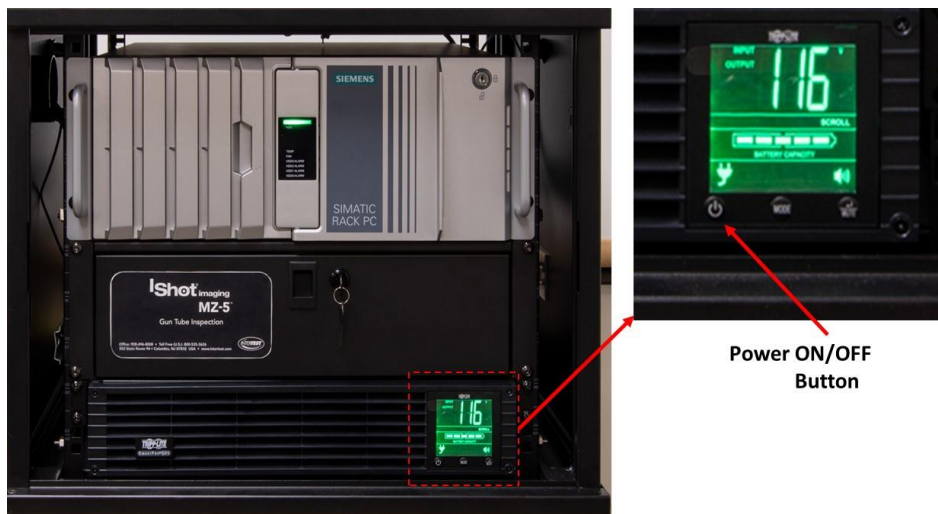

Figure 4 System ON/OFF
- (2) Refer to Figure 4. Make sure the Rack Mount Control Unit is powered **down**. The **ON/OFF** Switch for the system can be found on the front of the UPS. The display will not be lit if the unit is **“OFF”**